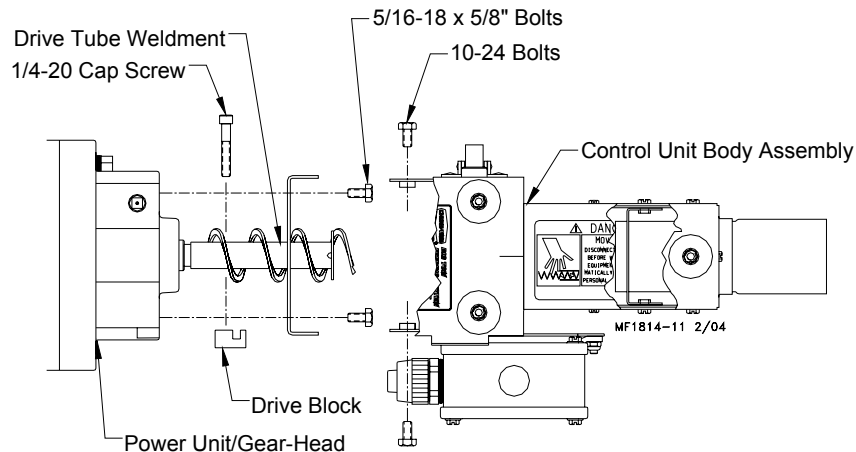

Figure 30. Control Unit Installation
1. Remove the four 5/16-18 x 5/8" bolts from the parts package and use them to bolt the anchor plate to the power unit. Install the anchor plate with the angled end pointing down, see **figure 30**.
2. Bolt the control unit body assembly to the power unit, using hardware supplied, see **figure 30**.
Mount the control unit on the end of the feeder line and secure with a tube clamp. See **Figure 30 (on page 23)**. The distance between the control unit pan and the last pan should be 5' (1.5 m) or less.